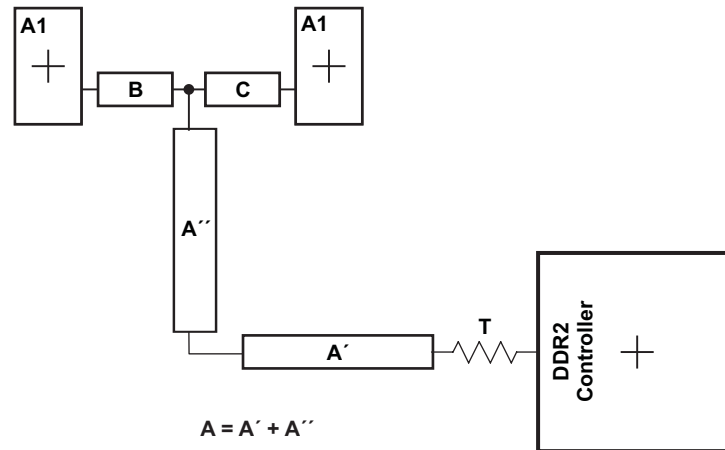

Figure 8-42. CK and ADDR_CTRL Routing and Topology
Figure 8-42 shows the topology of the routing for the CK and ADDR_CTRL net classes. The route is a balanced T as it is intended that the length of segments B and C be equal. In addition, the length of A ($A' + A''$) should be maximized.
- (1) The length of segment A = A' + A'' as shown in Figure 8-42.
- (2) Series terminator, if used, should be located closest to the device.
- (3) Center-to-center spacing is allowed to fall to minimum (2w) for up to 500 mils of routed length to accommodate BGA escape and routing congestion.
- (4) CACLM is the longest Manhattan distance of the CK and ADDR_CTRL net classes.